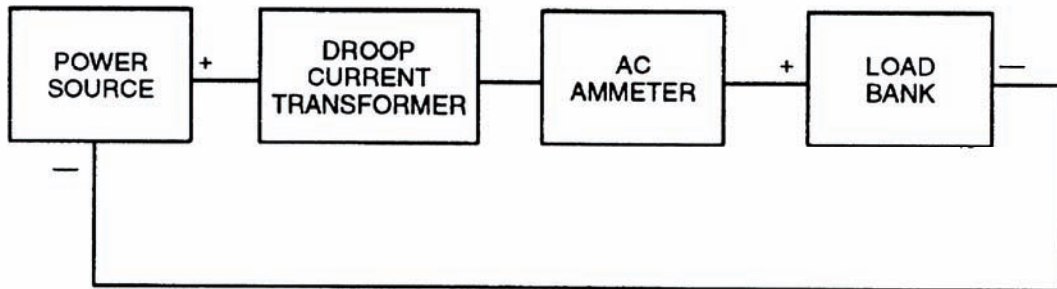

Figure 4-5. Testing Droop Current Transformer.
- d. Set up a test circuit using 10 gauge wire (Figure 4-5). Make ten passes with wire through window of droop current transformer.